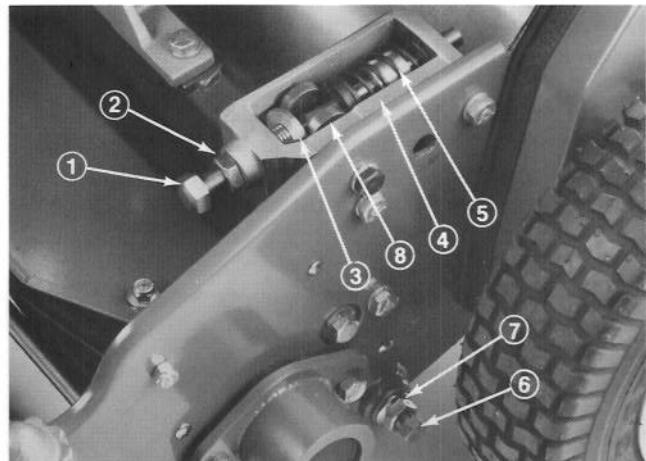

Figure 44
2. Loosen jam nut securing each bed bar adjusting screw to each frame adjuster (Fig. 44).
3. Loosen each bed bar adjusting screw until thrust washer bottoms out on frame adjuster (Fig. 44).
4. Using a spring compressor or clamp, compress springs on bed bar adjusting screws to free bed bar from frame adjusters (Fig. 44).
5. On each side of machine, loosen the jam nut securing bed bar bolt (Fig. 44).
6. Remove each bed bar bolt allowing bed bar to be pulled downward and removed from machine (See figure). Account for (2) thrust washers on each end of bed bar bolt.